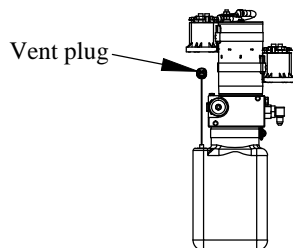

Figure 9: Vent plug.
2. **Remove** the vent plug from the pump reservoir (Figure 9).
4. **Install** the vent plug in the pump reservoir (Figure 9).